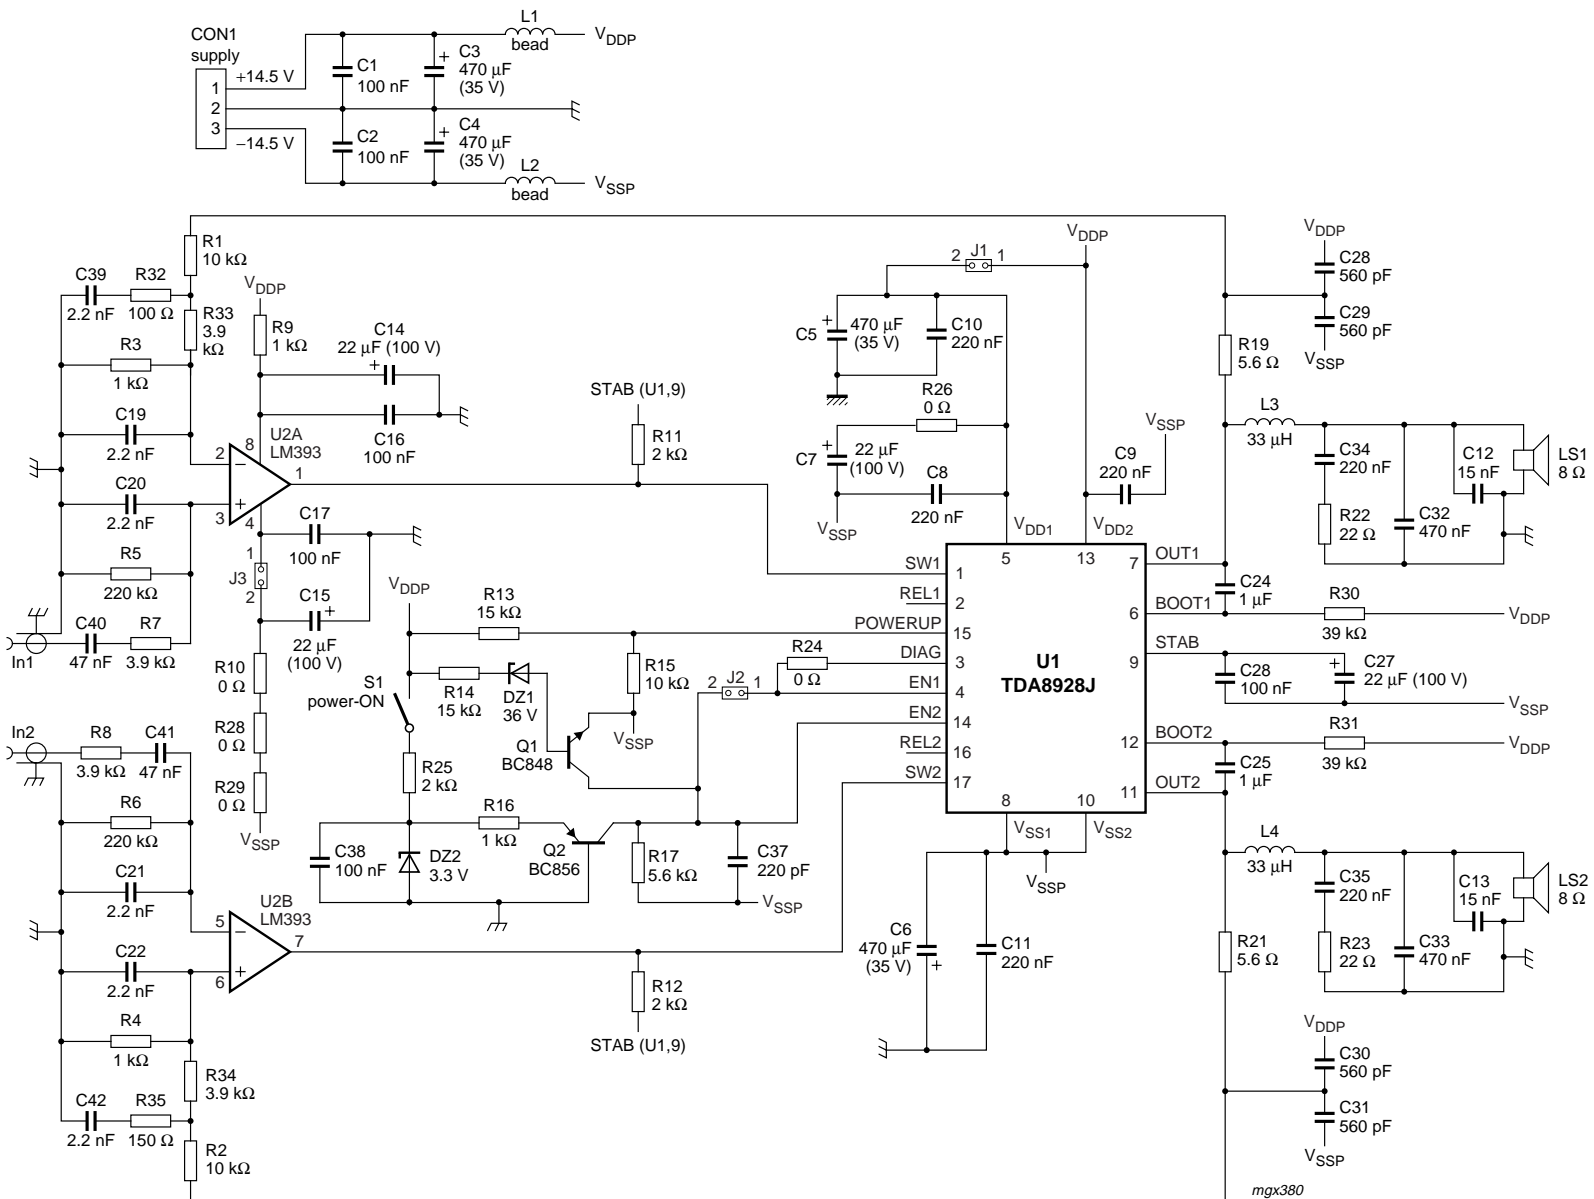

Fig.5 Single-ended self oscillating class-D system application diagram for TDA8928J.
- $V_P = \pm 12.5$  V;  $R_L = 8 \Omega$ ;  $f_i = 1$  kHz;  $f_{osc} = 310$  kHz;  $R_S = 0.1 \Omega$  (series resistance of filter coil);  $T_{amb} = 25$  °C; measured in reference design (SE application) shown in Fig.5; unless otherwise specified.
- Total Harmonic Distortion (THD) is measured in a bandwidth of 22 Hz to 20 kHz (AES 17 brickwall filter). When distortion is measured using a low-order low-pass filter a significantly higher value will be found, due to the switching frequency outside the audio band. Measured using the typical application circuit, given in Fig.5.
For a SE application the application diagram as shown in Fig.5 can be used.
The reference design for a self oscillating class-D system for the TDA8928J is shown in Fig.5. The Printed-Circuit Board (PCB) layout is shown in Figs 6, 7 and 8. The bill of materials is given in Section 15.4.2.